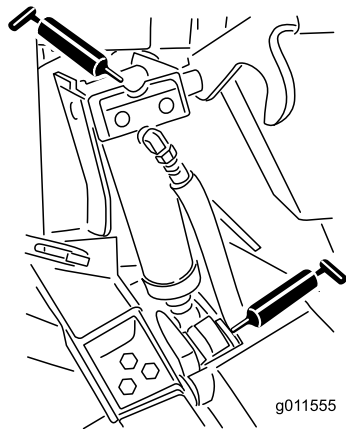

Figure 87
- 4 lift-cylinder bushings (Figure 87)